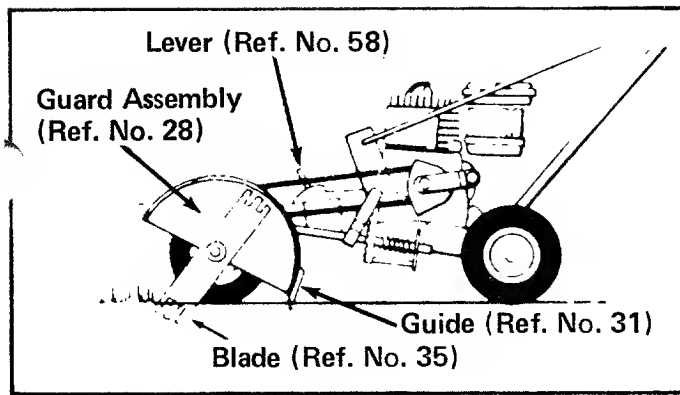

FIGURE 11.
3. Be sure the guide (ref. no. 31) which is mounted on the guard assembly (ref. no. 28) is positioned as shown in figure 11.